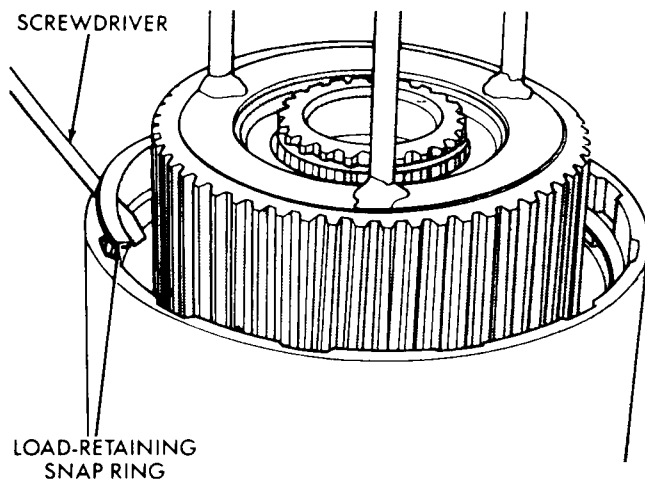

Fig. 2—Load-Retaining Snap Ring
(2) When the hub is compressed, you will now be able to safely remove the large load-retaining ring (Fig. 2), and the small load-retaining safety